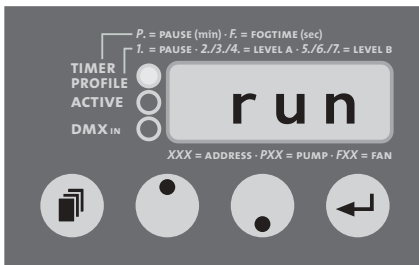

Fig. 8: Start the profile
- To start the Profile with the adjusted values, press the Mode button [14], until „run“ appears on the display (Fig. 8), then press the Enter button [16]. The Timer/Profile-LED [20] flashes, indicating that the Profile is running. The green Active-LED [18] lights as soon as the adjusted Pause (Pre-Runtime) has passed and level A has started. The Profile can also be started via an optional radio remote.